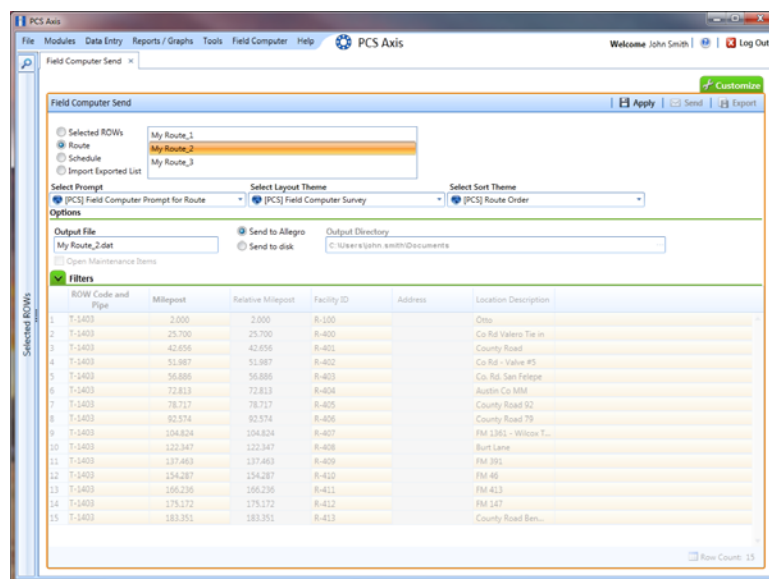

Figure 7-22. Field Computer Send
- 16 Click the **Route** option and select a route in the selection box. Then click  **Apply** to update the grid (Figure 7-22).